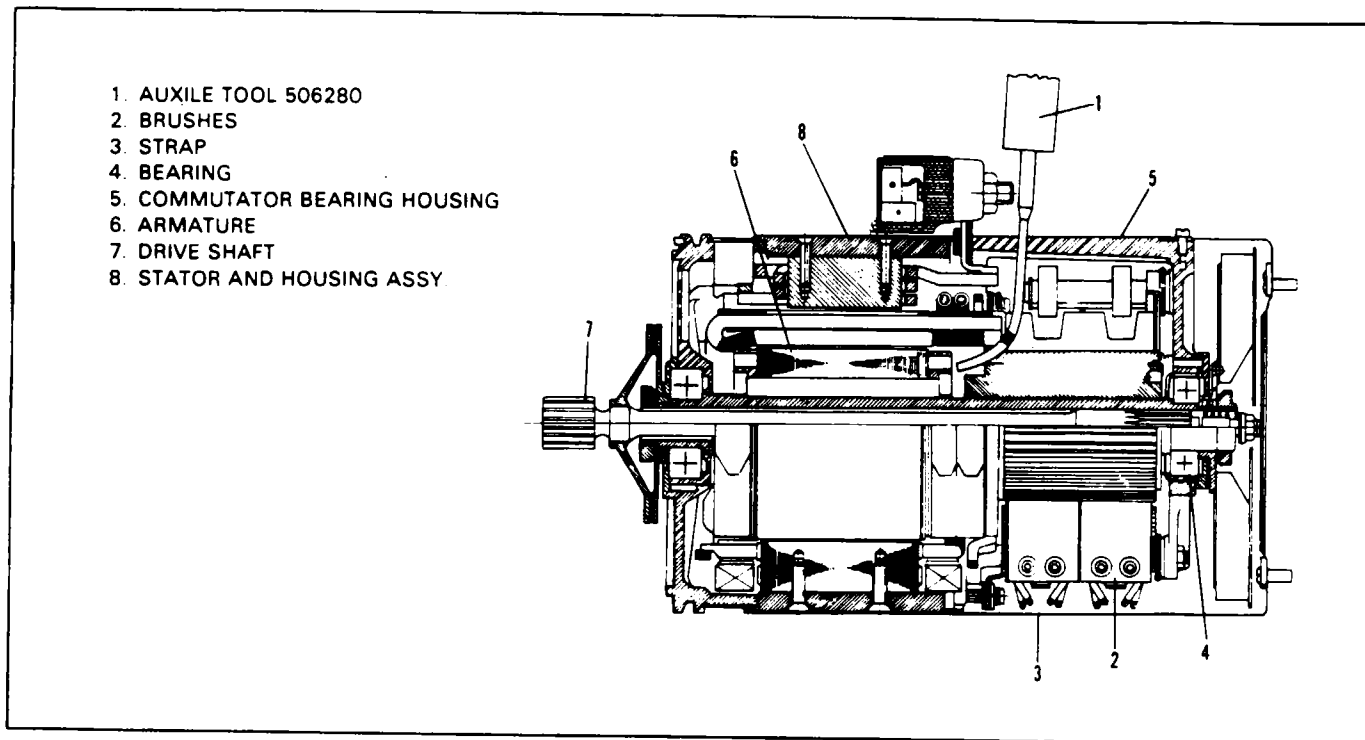

Figure 24-2a. Position of Auxilec Tool for Blowing out Carbon Dust from Auxilec 8013C Starter-Generator
REMOVING CARBON DUST FROM AUXILEC 8013C STARTER GENERATOR. (Refer to Figure 24-2a.)
- A. Insert the nozzle of the tool between the radial leads connecting the bars of the commutator to the conductors up to the black band (on the tool nozzle) as shown in Figure 24-2a.